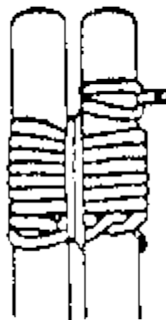

Figure 3
5. After 3-4 *wraps*, next *frap* ~3 times. *Frapping* is when you wind the rope between the poles, pulling tightly each time you go around. This tightens the rope *turns* already made even tighter, preventing the poles from moving (figure 3 & 4).
- Tighten the *turns* by applying ~3 *frapping turns* between the poles, pulling each *turn* tightly (figure 3).
4. Next, make ~3 *frapping turns* between the two poles to tighten the lashings (figure 3).